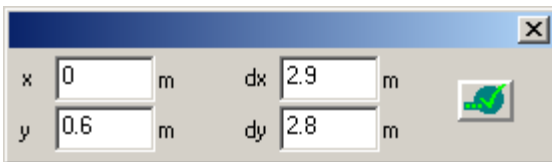

Figure 1.8.3 Floating box to define coordinates of node
- ⇒ In another window (see Fig.1.8.3), define the following parameters: